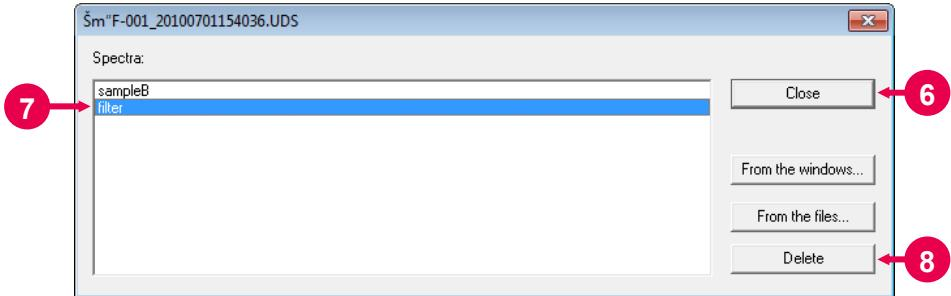

Fig. 5-23
- (8) Two spectra will be overlaid on the data processing window. At the same time, a dialog box as shown in Fig. 5-23 will appear. Click the **Close** button (refer to (6) in Fig. 5-23).
- (9) To delete a spectrum, click the corresponding sample name in the above Spectra list (refer to (7) in Fig. 5-23). When the clicked sample name is highlighted in blue, the **Delete** button becomes active. Click the **Delete** button (refer to (8) in Fig. 5-23).